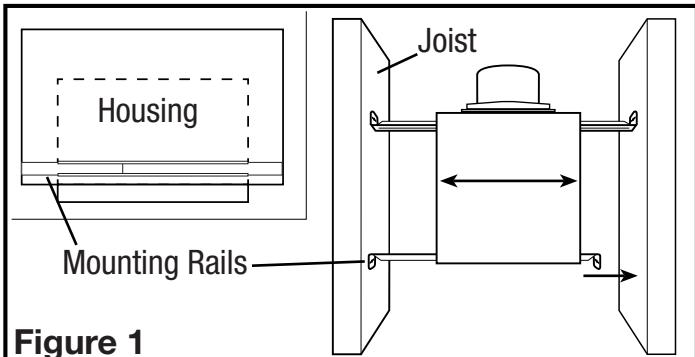
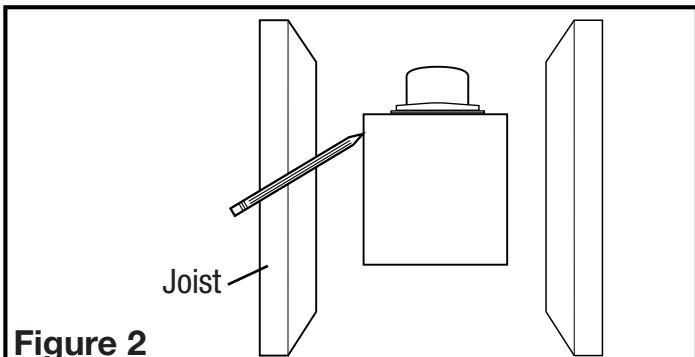

Figure 1
Figure 2
1. Install the rails into the mounting channel on the housing. Center the mounting channel in the slots on the housing, then from inside the housing tighten the mounting channel nuts so the channel is securely in place. Position the housing next to the joist. Line up housing so that it will be flush with the finished ceiling. Secure the ends of the rails with screws or nails (not included) to the joists and slide the housing into the final position (Figure 1).
1. Set housing in position between the joist and trace an outline onto the ceiling material (Figure 2). Set housing aside and cut opening, being careful not to cut or damage any electrical or other hidden utilities. Install the rails into the mounting channel on the housing. Center the mounting channel in the slots on the housing, then from inside the housing tighten the mounting channel nuts so the channel is securely in place. Position the housing in the previously cut hole so that it is flush with the finished ceiling. Secure the ends of the rails to the joists (Figure 1).